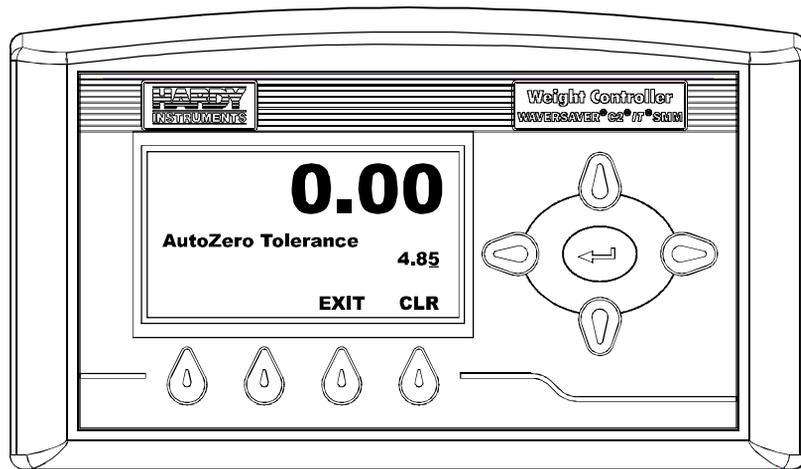

FIG. 81 AUTOZERO TOLERANCE MENU
- Step 2. Press the Enter button. The AutoZero Tolerance Menu appears. (See Fig. 81)
Step 3. Use the Left or Right Arrow buttons to move the cursor. When you have placed the cursor in the location you want, use the up or down arrows to enter the number and decimal point you want for this application. In our example we entered 4.85 for our AutoZero Tolerance. (See Fig.81)
The number entered in Figure 81 is for illustration purposes only, yours will vary depending on your application.